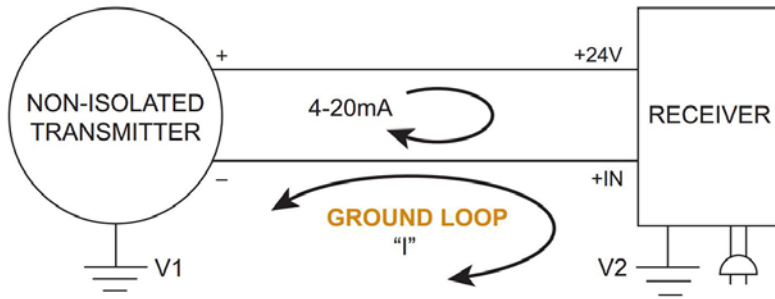

Figure 1. A ground loop forms when the voltages at two ground points in a loop are at different potentials.
The loop in question may be as simple as a differential pressure (DP) transmitter sending a 4-20 mA measurement to a receiver such as a proportional-integral-derivative (PID) Controller. But when the voltages at the two ground points are different, a circulating, closed current (I) path is formed by the copper wires used for the 4-20 mA signal and ground (Figure 1). When this happens, an additional and unpredictable amount of current is introduced into the loop, which distorts the true measurement. This current path, known as a “ground loop,” is a common source of signal inaccuracies.